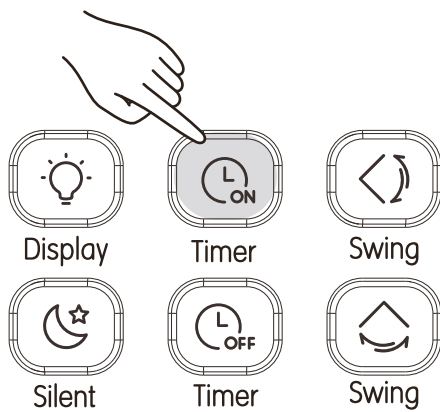

fig. 17
- Press (see "fig. 17"), and the remote remote control will display "Timer On", and "0.0H" will appear in the timer area. Adjust the Timer On settings now;